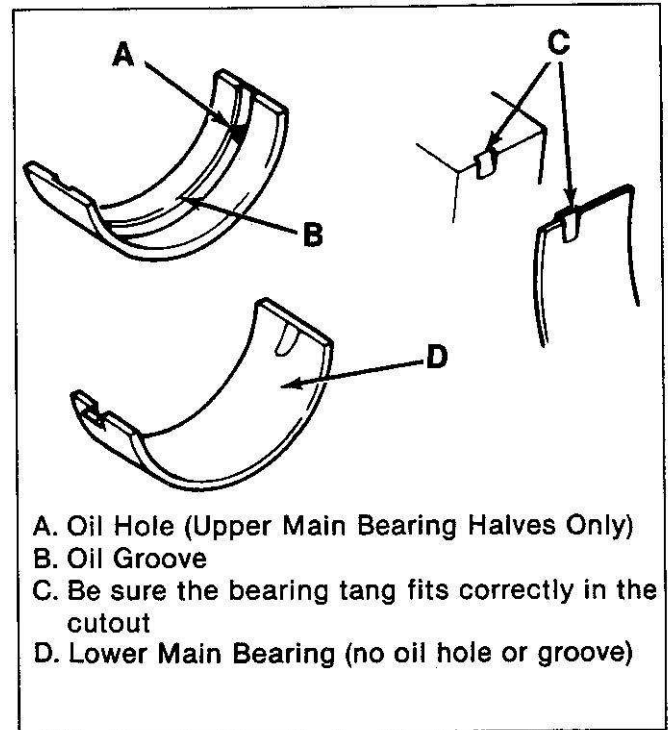
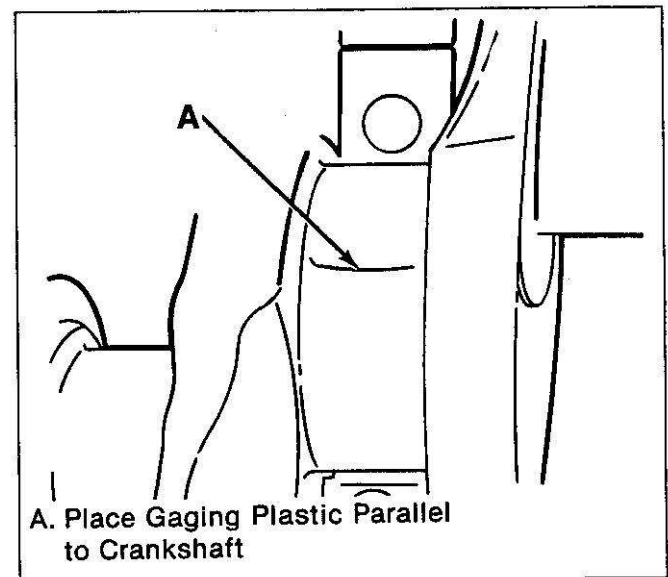

Figure 116. Main Bearing Locations
Figure 117. Location of Gaging Plastic
- The upper main bearing inserts (206) have both an oil hole and an oil groove (figure 116).
- Be sure the bearing tang fits properly in the cutout in the block (136).
Important (Figure 116)
- Check the bearing tension. Good finger pressure should be required to push the bearing insert into position (figure 116). If not, do not reuse the bearing.
- Wipe the oil from the crankshaft (198) journal and the lower main bearing insert (201).
- Place a piece of gaging plastic the full width of the lower bearing insert (201) (parallel to the crankshaft) on the journal (figure 117). Do not rotate the crankshaft (198) while the gaging plastic is between the bearing and journal.